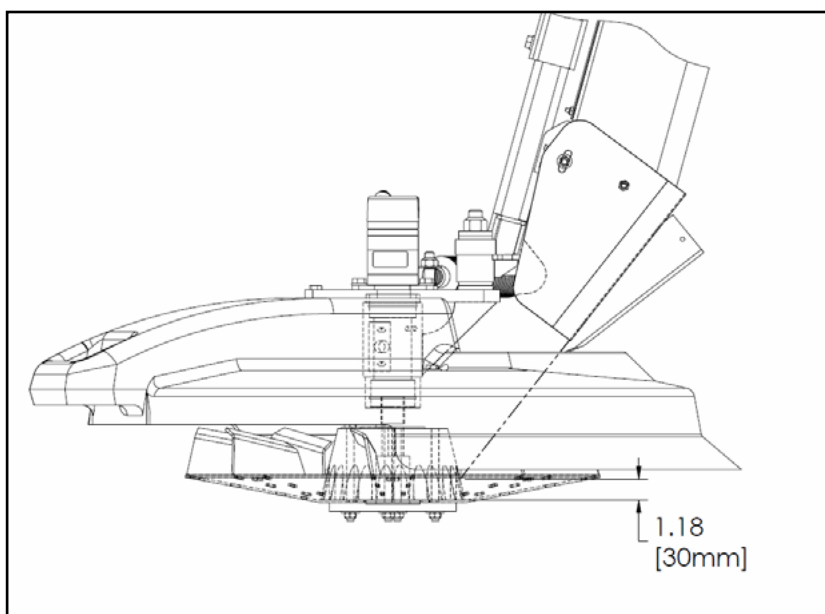

Figure 12 - Drop Point
3. Measure the distance between where the strip hits the spinner hub and the base of the hub as shown in Figure 12.